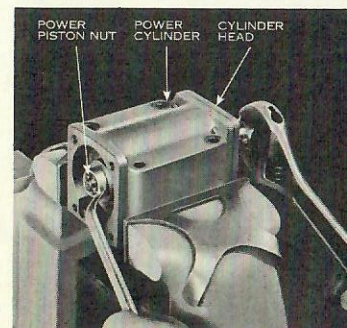

FIG. 21-1
4. Place power cylinder in vise, remove cotter and nut holding piston rod, Fig. 21-1.